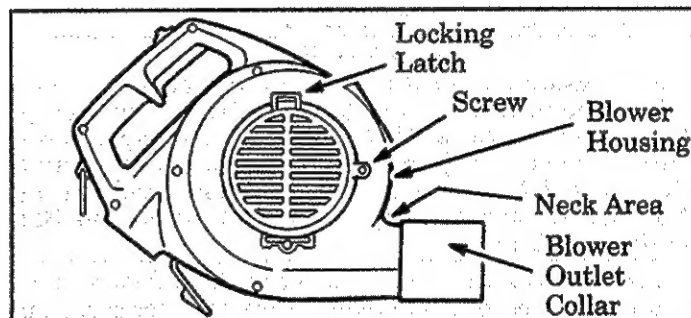
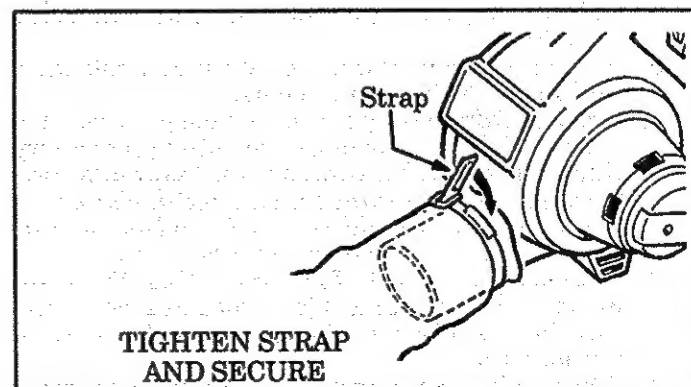

Figure 3
Figure 5
3. Using a Phillips screwdriver, remove the screw from the inlet cover. Figure 3. Retain the screw.
4. Press the locking latch (Figure 3) and open the inlet cover.
7. Fit the opening of the bag over the blower outlet. Make sure the vac bag strap is located completely over the blower outlet collar and is in the neck area between the blower outlet collar and the blower housing. Figures 3 and 5. Pull the strap tightly through the "D" ring and secure with the velcro tabs. Figure 5.